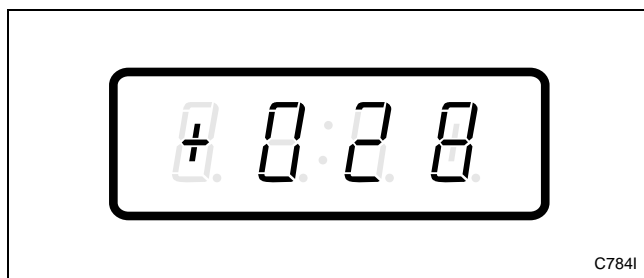

Figure 85
3. Press the DELICATES (+) or the COLD (-) keypad to scroll through the programmable options until “+028” appears in the VFD. Refer to *Figure 85*.